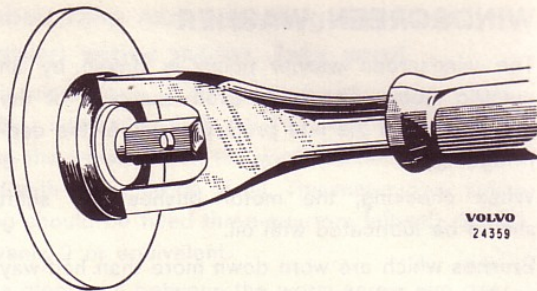

Fig. 108. Switched removed
3. Disconnect the switch by unscrewing the nut with a suitable tool as shown in Fig. 108.